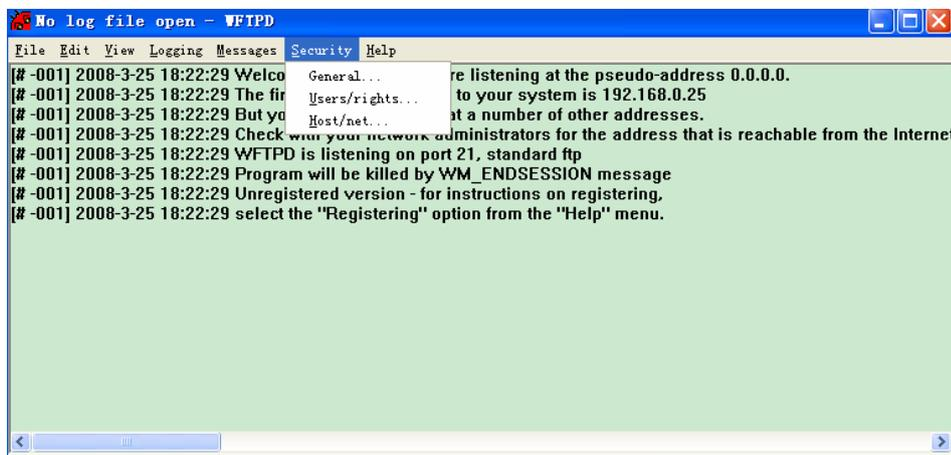

Figure D-1 WFTPD Startup sample
1. Install WFTPD in PC. Startup WFTPD; shown in figure D-1: